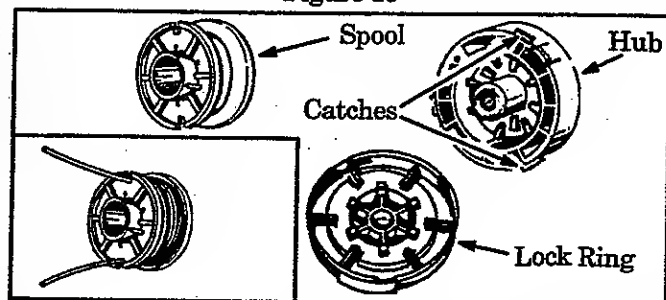

Figure 16
- b. Remove lock ring and spool. Figure 16 .
- g. Check to make sure all three catches (Figure 16) and the lock tab (Figure 17) are properly fastened. Figure 18. Then test the Lock ring by trying to turn it counterclockwise.